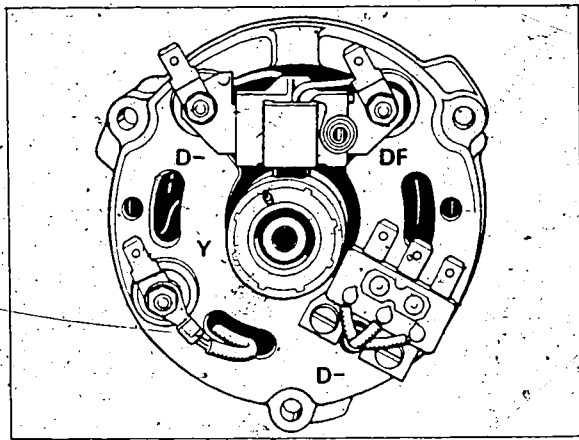

Fig. 1
2.1 Checking the positive diodes (Figure 1):
2.2 Testing the negative diodes (Figure 1):
2.3 Testing the exciter diodes (Figure 1):